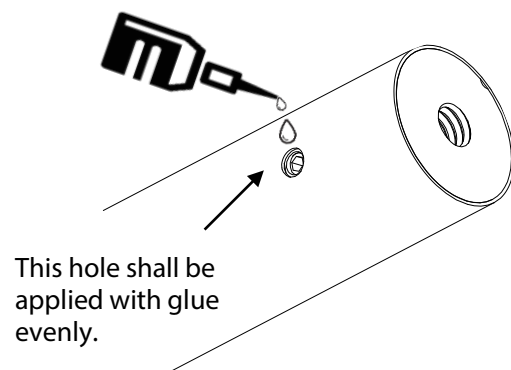

Figure 2-1
1. Using the glue and applying in the hole of the arms as well as the one screw, as shown in Figure 2-1. (This is to prevent screws from getting loose due to vibration after being used for a long time.)